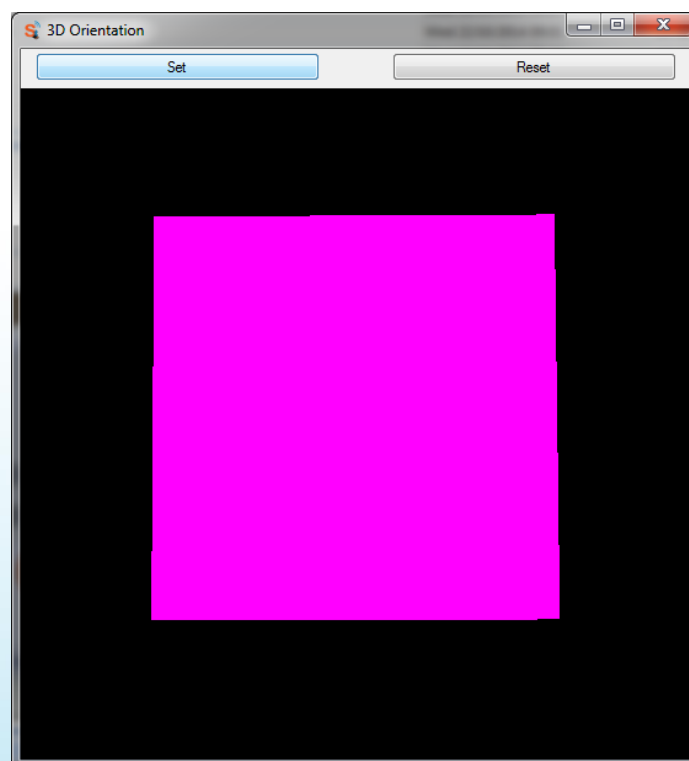

Figure 2-20 Representation of the 'back' face of the Shimmer Device.
5. Each face of the cube has a different colour. The face of the cube which corresponds to the back of the Shimmer device is purple, as shown in Figure 2-20.